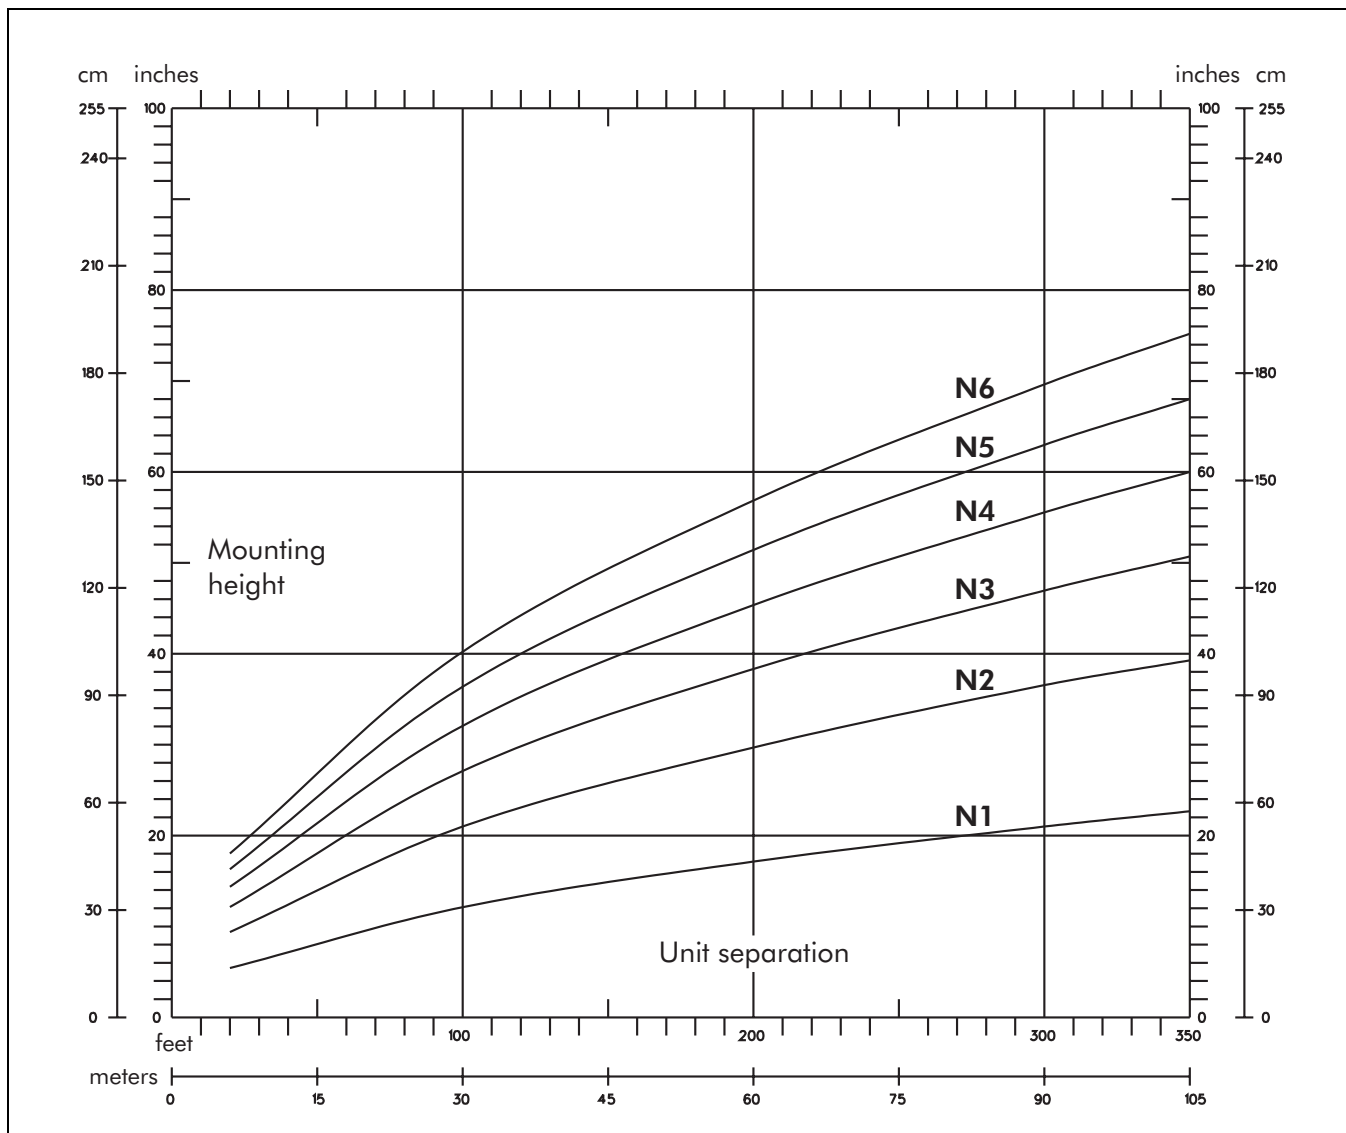

Figure 3-3: Mounting height chart
2. Using the mounting height chart, Figure 3-3, determine the approximate mounting height of the units.
4. Slowly move both units vertically up and down from the nominal mounting height determined from Figure 3-3. The optimum mounting height is reached when the digital voltmeter reading is the highest. Mark the spot on the wall and attach the wall mount to the wall.
The mounting height chart (Figure 3-3) is used to determine the best theoretical mounting height of the transmitter/receiver units for optimum efficiency of the sensor system. This height chart is intended to furnish a preliminary mounting height only. The final operating height will be determined during electrical alignment and final adjustment.